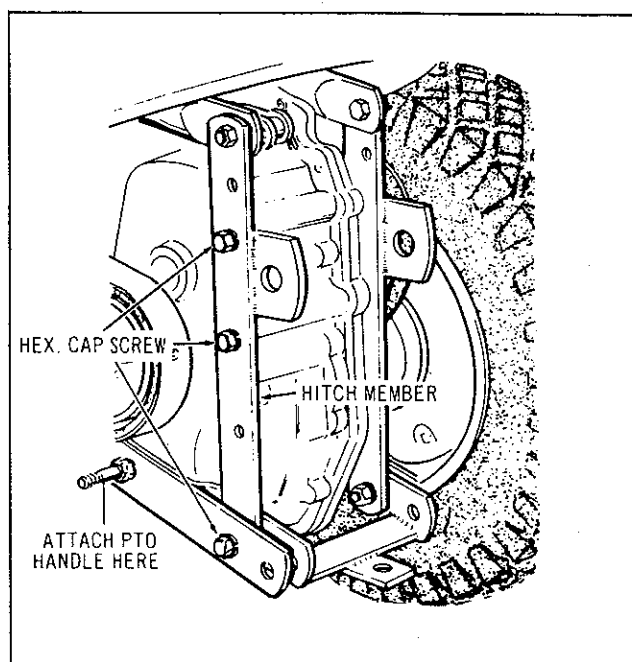

FIG. 1
1. Remove 3 Hex. Cap Screws from left side of tractor as shown in Figure 1.